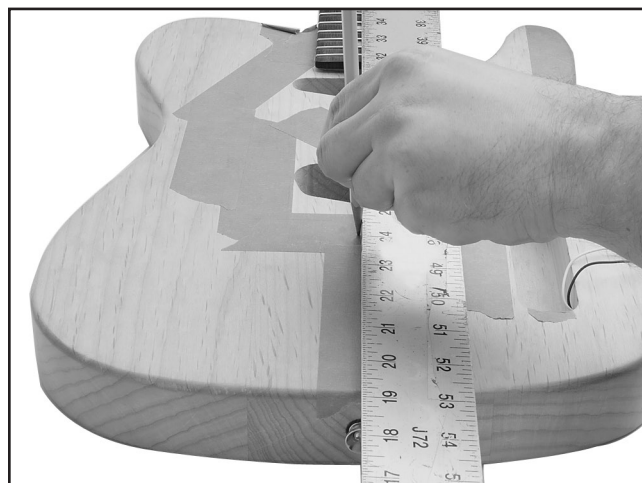

Figure 12. Marking center line.
6. Place a long straightedge over the center of the fretboard inlays and over the bridge cavity, and mark the center line on the guitar body (**Figure 12**).